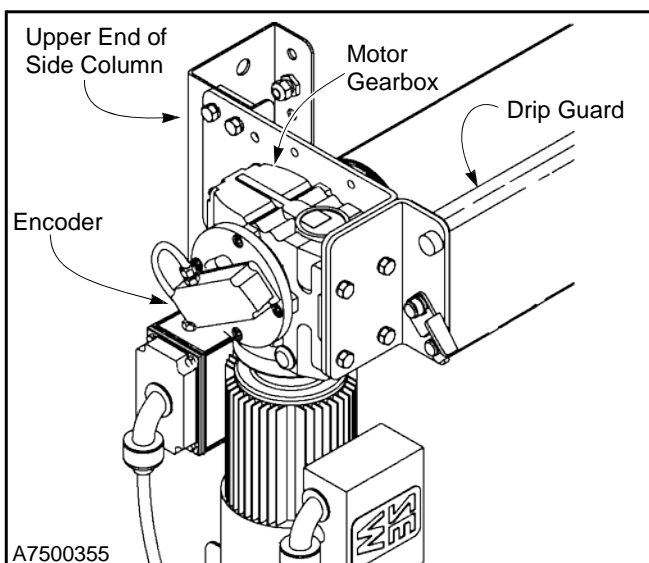

Figure 44
3. Pressure wash the outside surface of the drip guard and upper end of the side columns. (See Figure 44.)